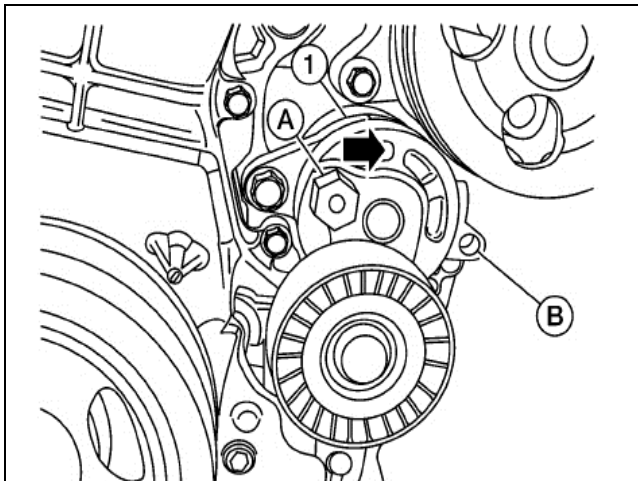
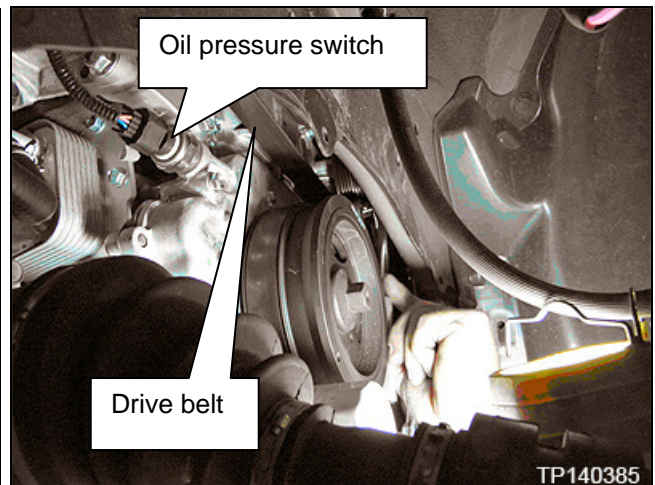

Figure 17
Figure 18
25. Disconnect the oil pressure switch (Figure 18).
26. Remove the engine drive belt from the supercharger (Figure 17 and Figure 18):
- a. Securely hold the hexagonal part (A) of drive belt auto-tensioner (1) using suitable tool, and move in the direction of arrow (loosening direction of tensioner).